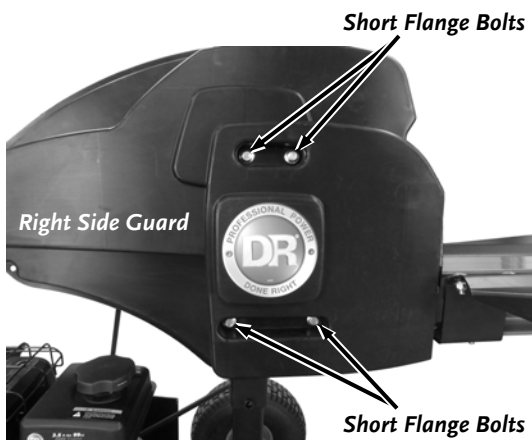

Figure 44
3. Remove the four short Flange Bolts and Locknuts that secure the right side Guard to the Frame using a 9/16" Socket and Ratchet to remove the right side Guard from the Splitter (**Figure 44**).